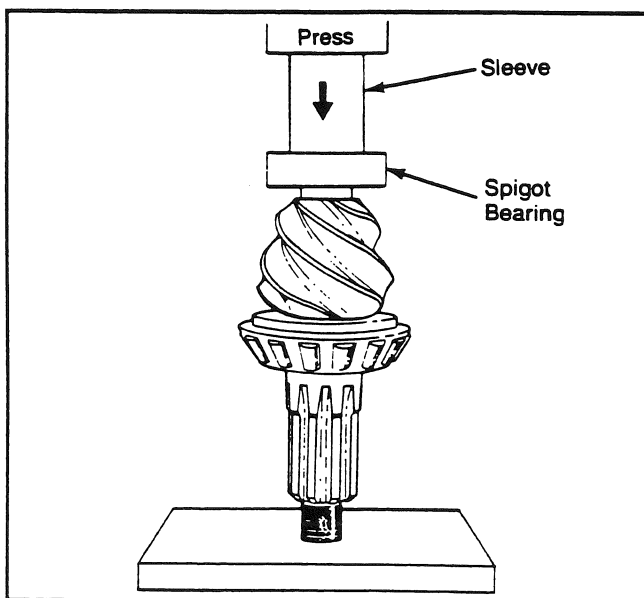

Fig. 31
- Use a sleeve of the correct size and press the spigot bearing on the end of the drive pinion until the bearing is flat against the gear head (see Fig. 31). Install a new snap ring.